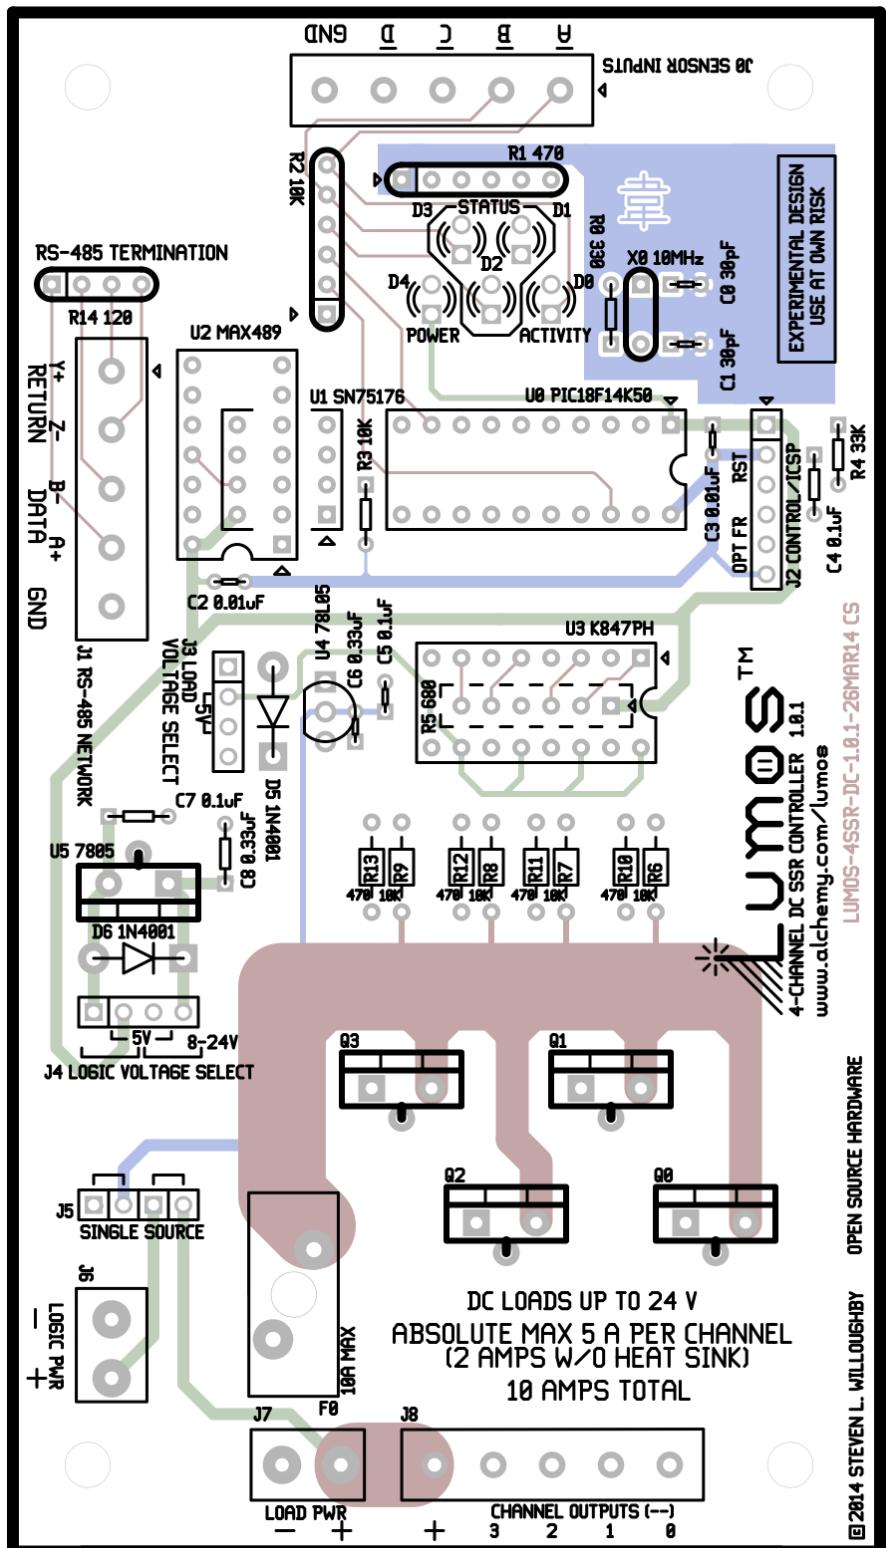

Figure 5.1: Lumos Board Parts Placement Diagram
Refer to Figure 5.1 throughout these instructions to see where the components are located on the PCB. The locations are also labeled on the PCB itself.
1. Install a 330Ω resistor in position R0 as marked on the PCB and Figure 5.1. This is marked with the color bands “orange-orange-brown.” Push it all the way until flush with the PCB.
4. Repeat steps 1–3 to install (5) 10 K resistors (“brown-black-orange”) at R3 and R6–R9.
5. Repeat steps 1–3 to install (4) 470Ω resistors (“yellow-violet-brown”) at R10–R13.